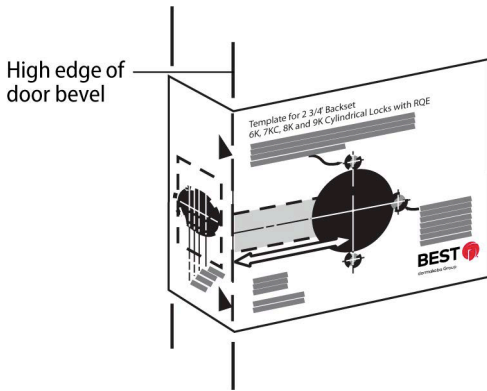

Figure 1 Positioning the template
- 2 Fold the template on the dashed line and carefully place it in position on the high side of the door bevel as shown in Figure 1.